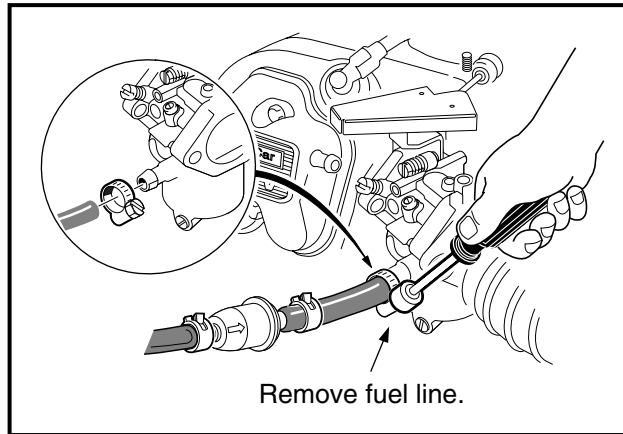

Figure 16-14 Fuel Line
4.4. Disconnect the fuel line from the carburetor. Temporarily push the disconnected end of the line onto the impulse line fitting of the fuel pump (**Figure 16-14, Page 16-9**).